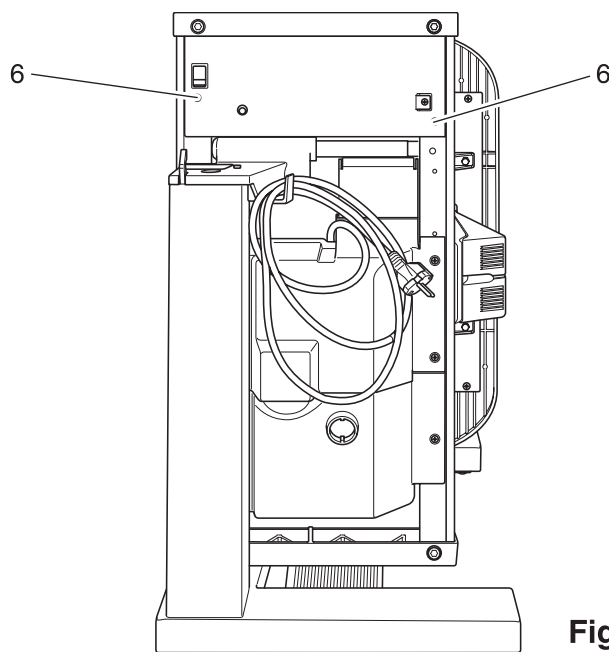

Fig. 5c
- Mount the cover plate and secure it with the two screws 6 (fig. 5c).